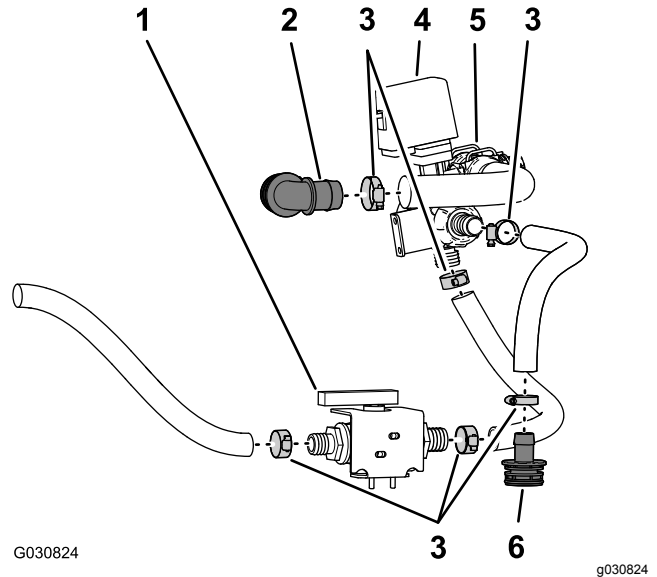

Figure 70
- Remove the hose clamps that secure the hose between the ball valve and the bottom of the agitation valve (Figure 70).
- Remove the hose clamp that secures the hose to the other end of the ball valve (Figure 70).
- Remove the hose clamp that secures the 90° barbed fitting to the hose from the bypass valve (Figure 70).
- Remove the hose clamps that secure the hose between straight-barbed fitting and the agitation valve (Figure 70).